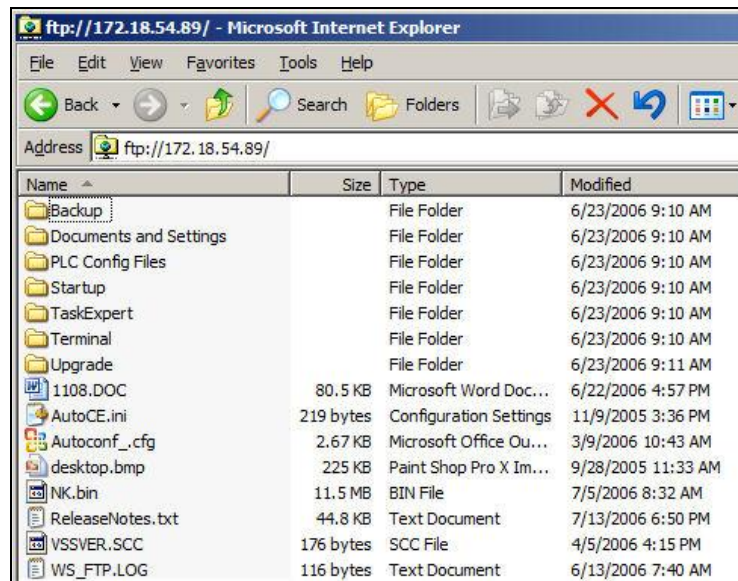

Figure D-8: Internet Explorer FTP Window
2. Explorer will display the IND780’s directory structure (Figure D-8).